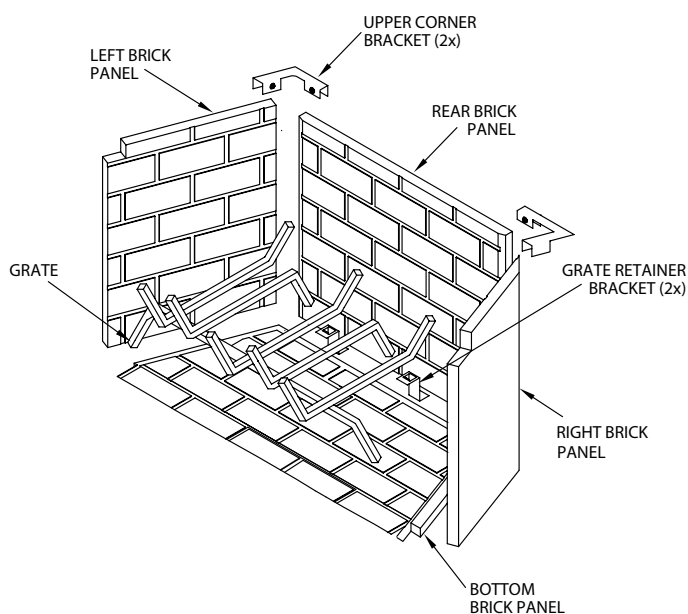

Figure 36a - Installing Refractory Panels
5. Install upper corner brackets and tighten set screws (see Figure 36a).
6. Install grate by placing rear legs into slots in the grate retainer (see Figure 36a)